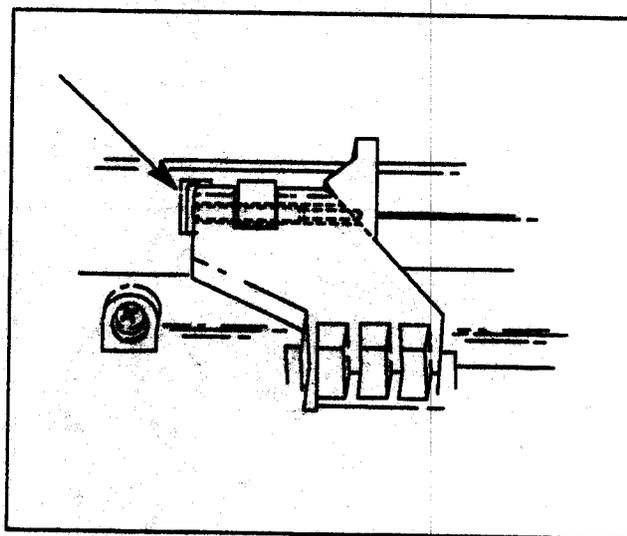

Figure 6-19. Pinch Wheel Removal
- b. Press on the shaft retainer protruding at the end of the pinch wheel shaft to release the retainer and shaft from the pinch wheel arm. See Figure 6-19.